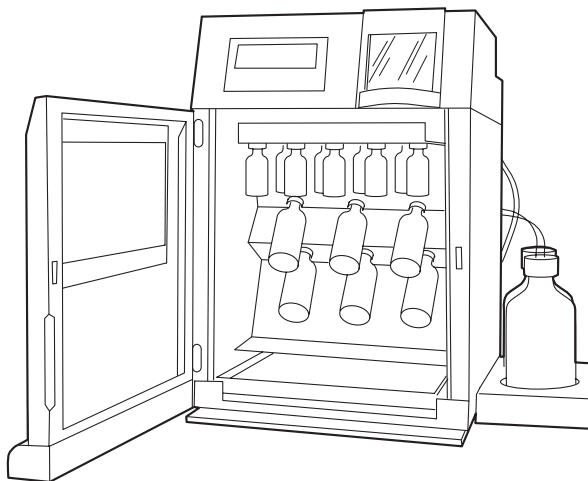

Figure 2-8 Install Bottles Before Powering up the Instrument
1. Make sure that there is a bottle firmly attached to each reservoir position (see Figure 2-8).